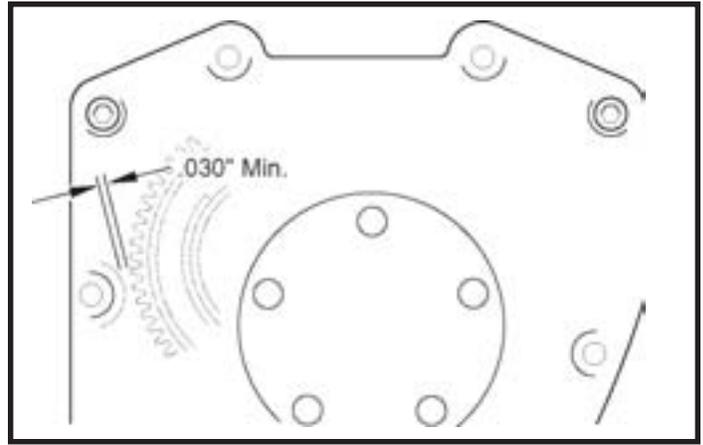

Figure 5
14. Press a small piece of clay or kneadable putty on cam cover mounting boss shown. **See Figure 5.** Carefully hold cover and cover gasket in position against crankcase. Install mounting bolts (4) near corners of cover finger tight. Push or tap cam cover towards front of engine.